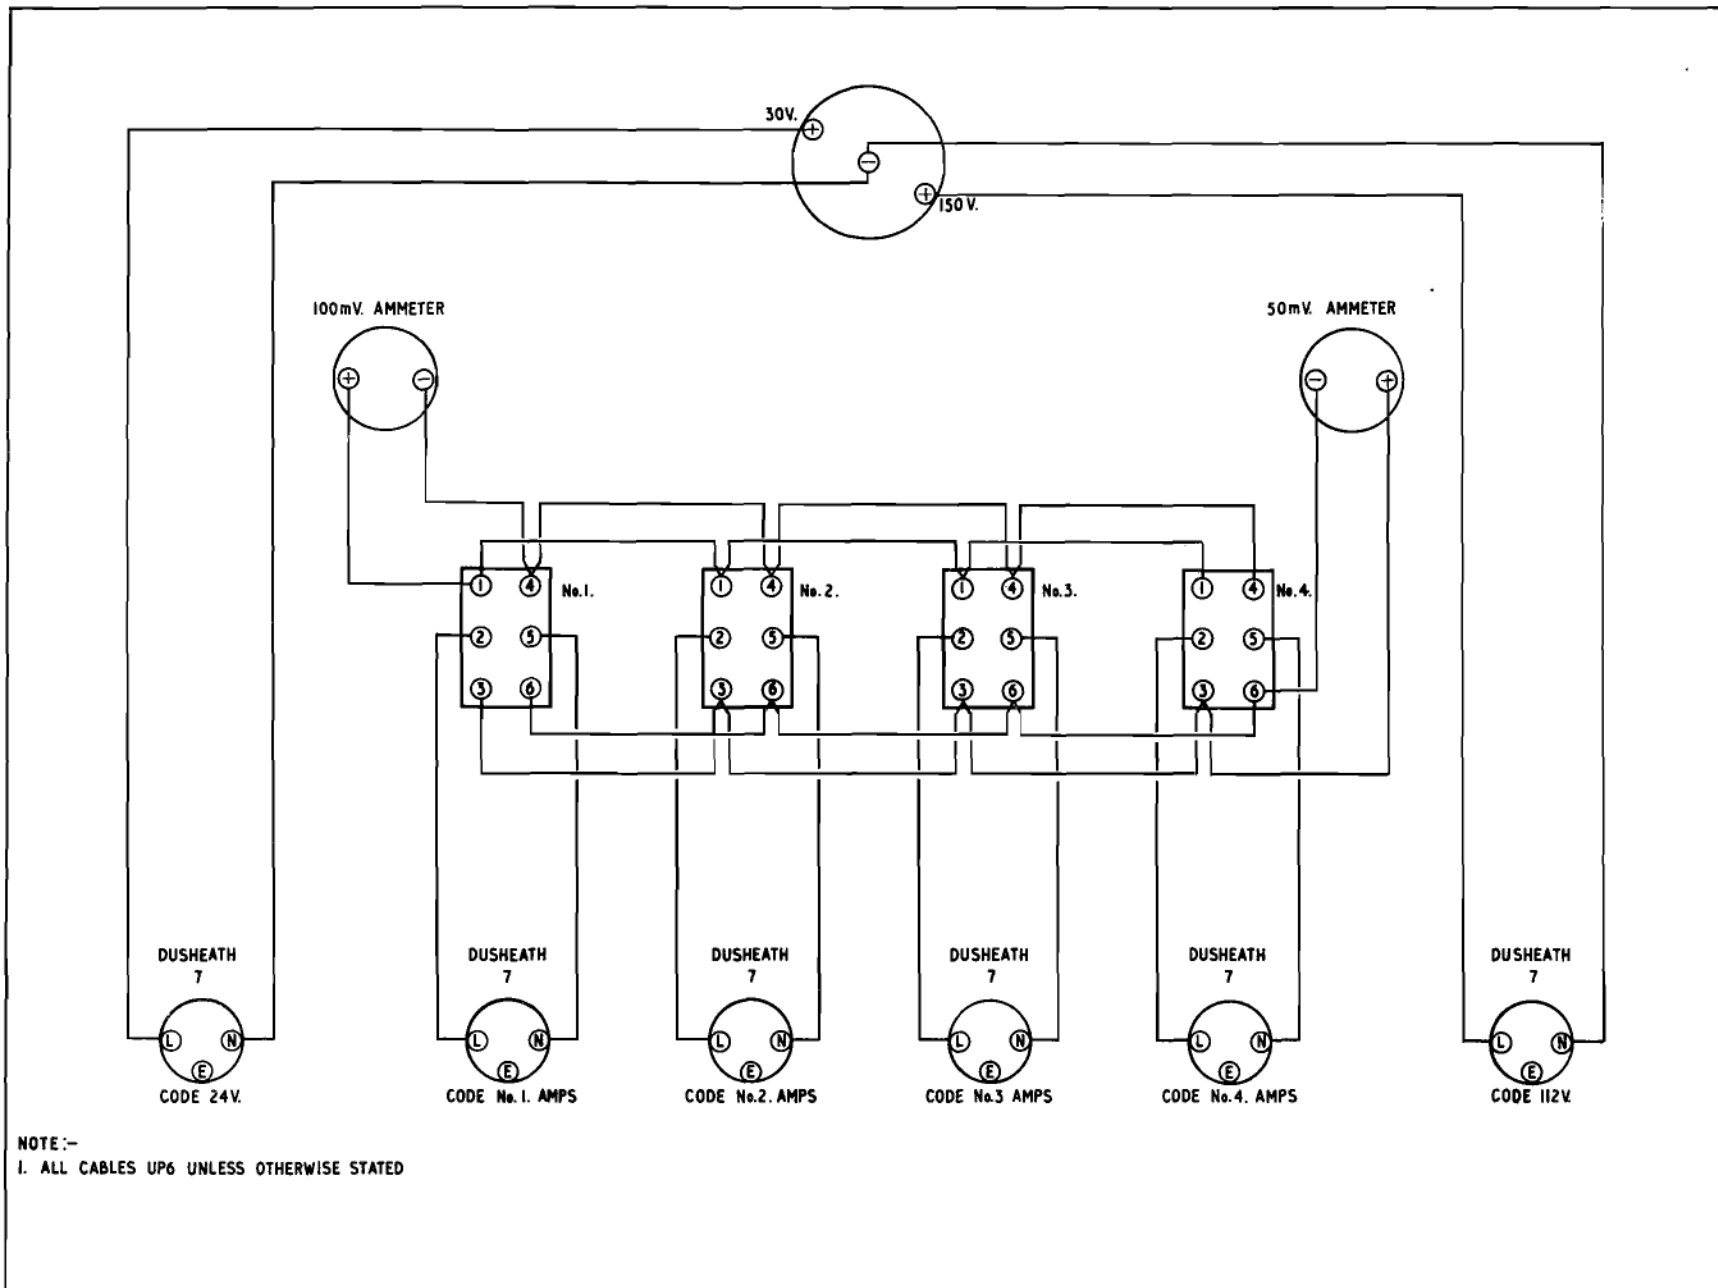
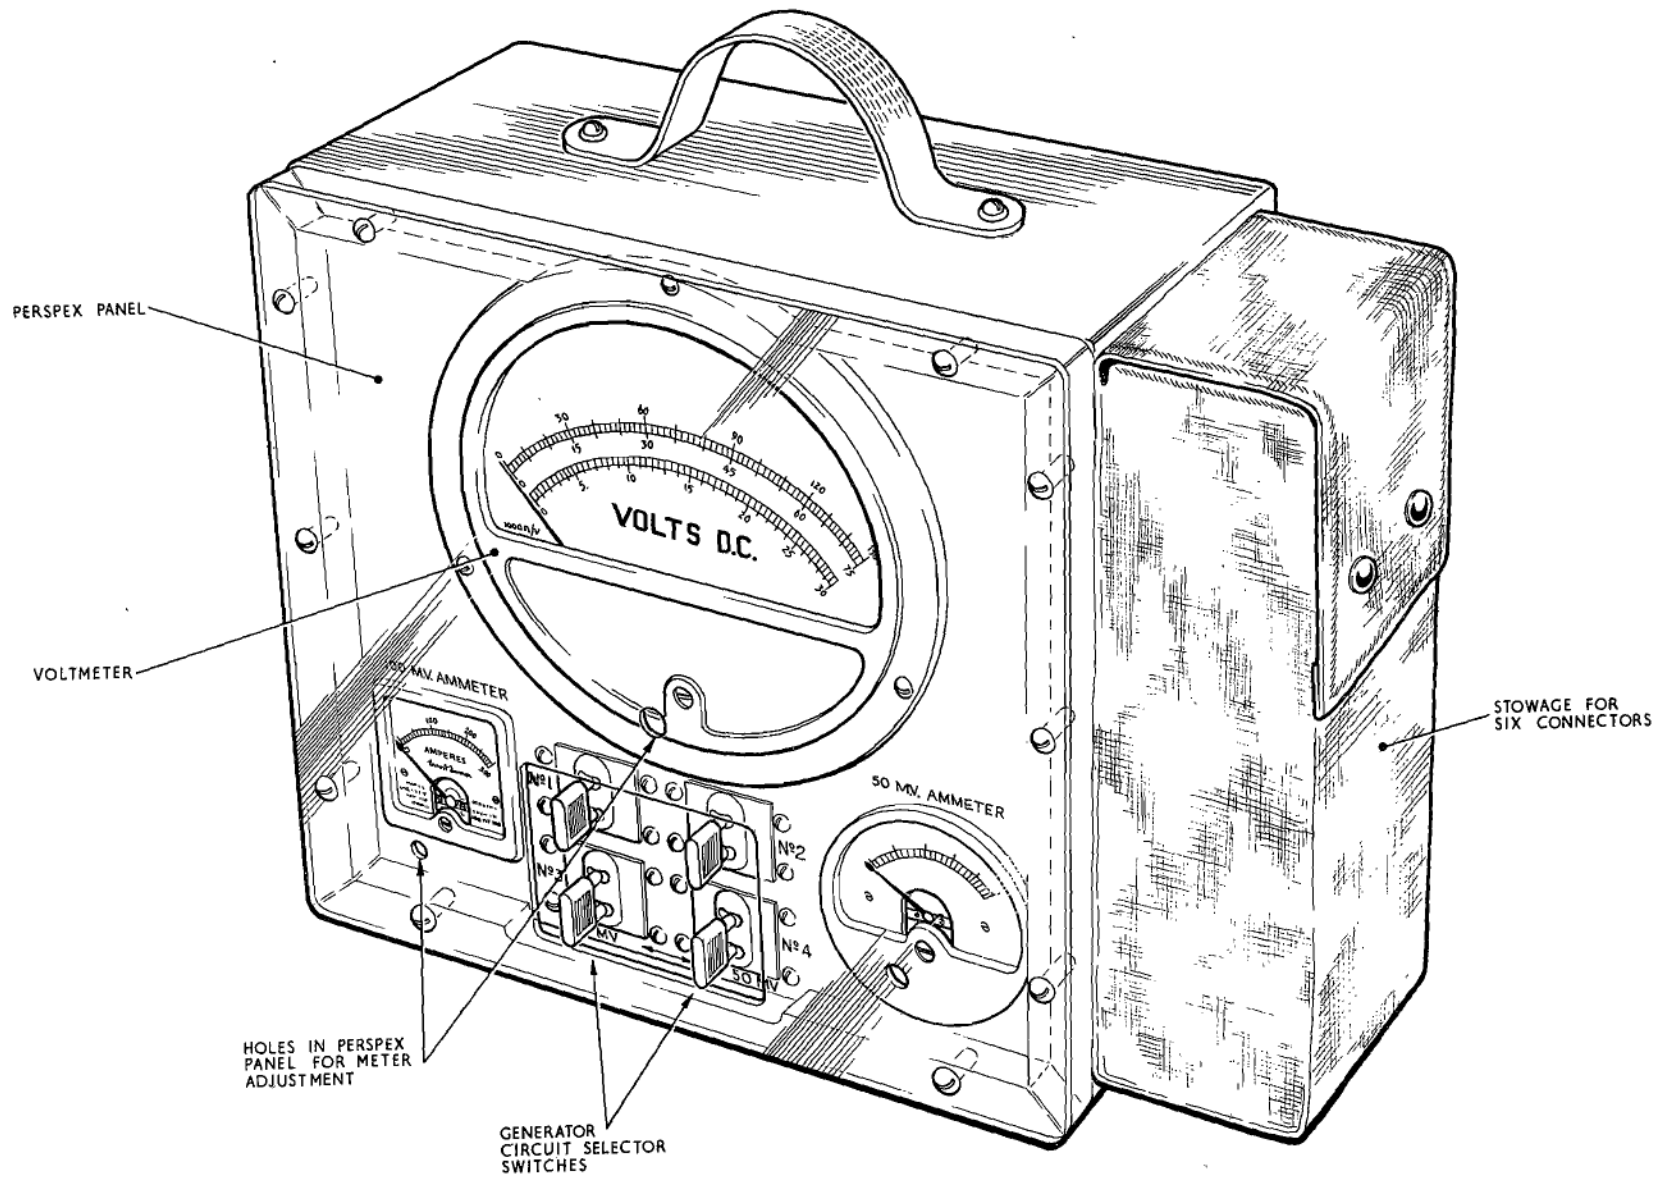

Fig. 2 Generator test box No. 2 (Mod. G.E. 2845)
Fig. 4. Generator test box No.2 (Mod. G.E. 2845)
6. The front panel of the test box contains a double-scale moving-coil voltmeter calibrated 0-30v., and 0-150v., and also two ammeters calibrated 0-200 amps.; one ammeter has a 100 m/v movement whilst the other has a 50 m/v movement. Four two-way selector switches, spring-loaded to centre off, are mounted on the panel to allow either the 50 m/v ammeter on the 100 m/v ammeter to be selected at will and connected to the generator circuit required. The construction is generally similar to that of the No. 1 test box, an additional protective Perspex panel being fitted and the six connectors being carried in a canvas stowage fixed to the side of the test box. The test box No. 2 is illustrated in Fig. 4, while Fig. 2 shows the integral wiring.